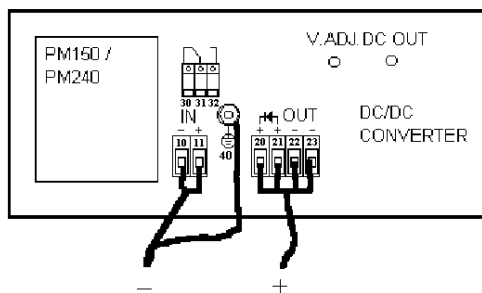

Figure 6. Output to case isolation voltage test.
- Connect your isolation tester between output and case. See *Figure 6*. Raise the voltage of the isolation tester from 0 to 4000V d.c. Check that the leakage current does not exceed 5 μ A. The voltage should not be applied for more than a
- Connect your isolation tester between output and case. See Figure 6. Raise the voltage of the isolation tester from 0 to 2500V a.c. The voltage should not be applied for more than one (1) minute or the Y-capacitors might be damaged.